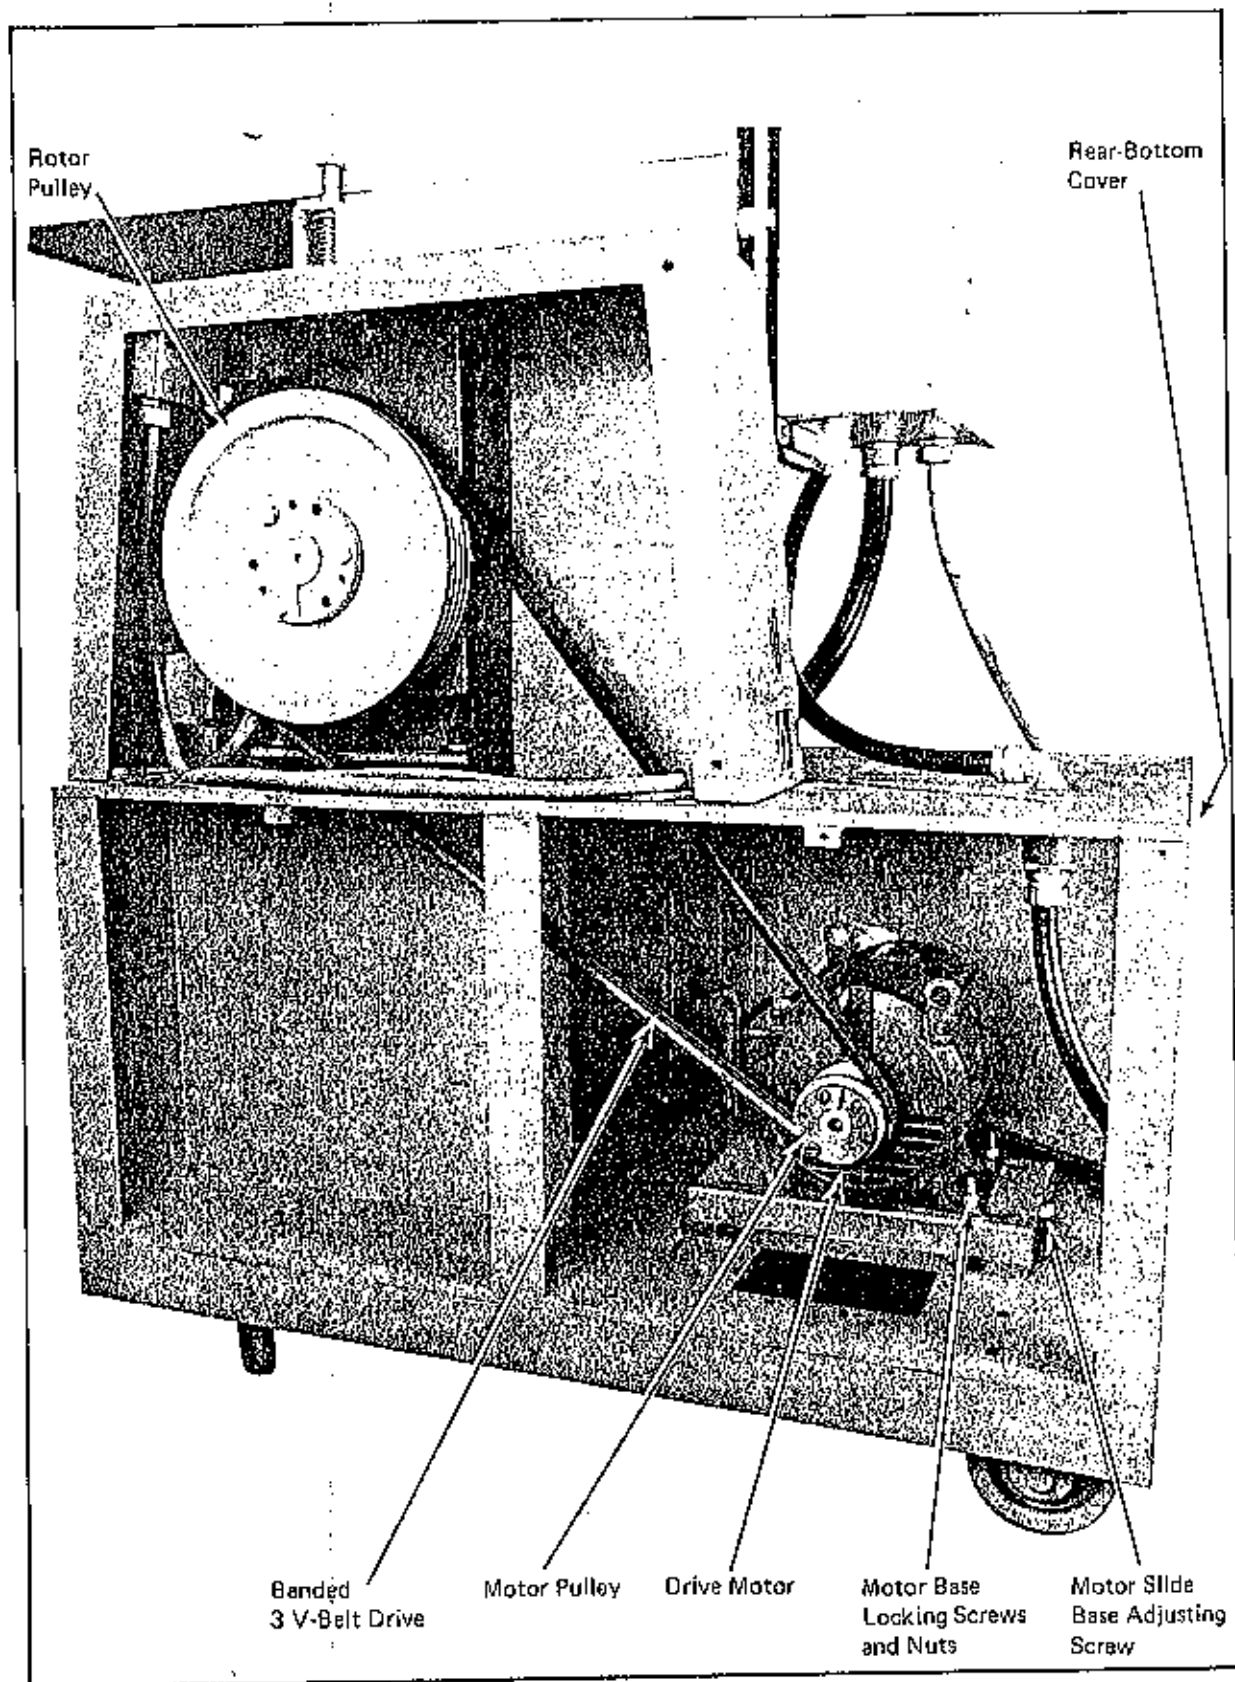

Figure 3-5. Drive Belt Tension Settings and Adjustments (Typical)
E. DRIVE BELT TENSION (See Figure 3-5)
A. MOTOR DRIVE BELT REPLACEMENT (See Figure 3-5)